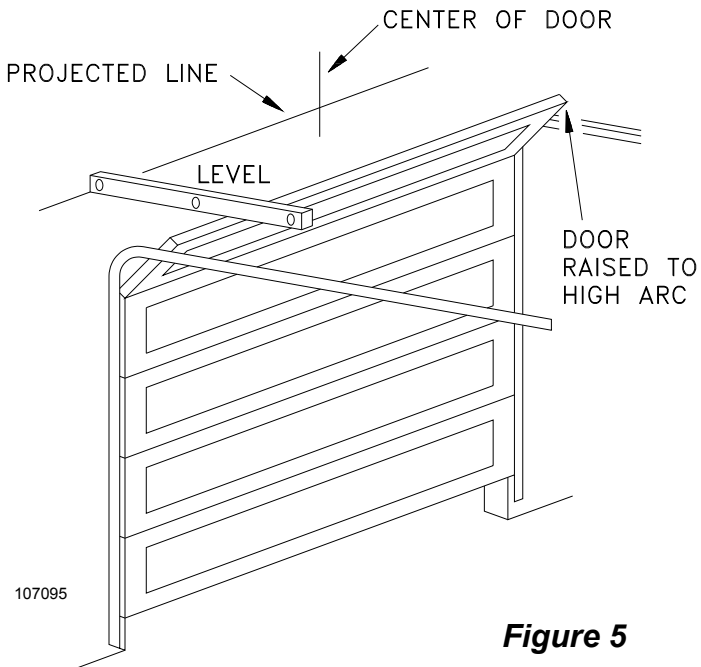

Figure 5
2) Slowly raise the garage door and observe the action of the top section. When the top section reaches the highest point (high arc), use a level and project a line from this point to the center of the door. See Figure 5.